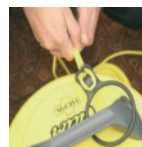
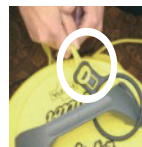

Fig 1
Fig 2
1. REMOVE CABLE FROM CABLE RESTRAINT. (ENLARGE LOOP AND UNHOOK FROM CATCH (Fig 1) AND FEED OUT THROUGH OPENING AT BOTTOM OF CABLE RESTRAINT (Fig 2))